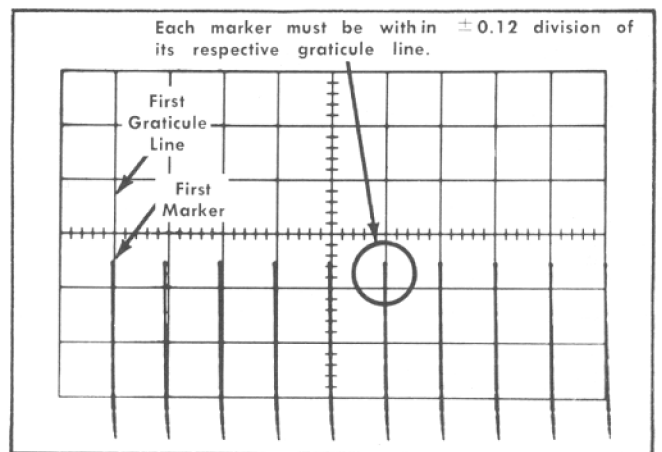

Fig. 6-47. Typical crt display when checking magnified linearity.
- c. Check—Linearity of crt display between the first and ninth graticule lines is within tolerance of $\pm 1.5\%$ (± 0.12 division); see Fig. 6-47.
42. Adjust Magnifier Register ①